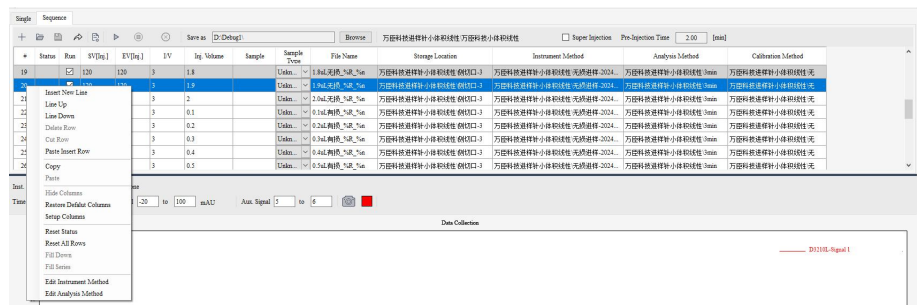

Fig.3-8 Complete sequence reset
5) If you want to run the sequence again, just select the completed sequence and right-click "reset status", as shown in Fig.3-8.